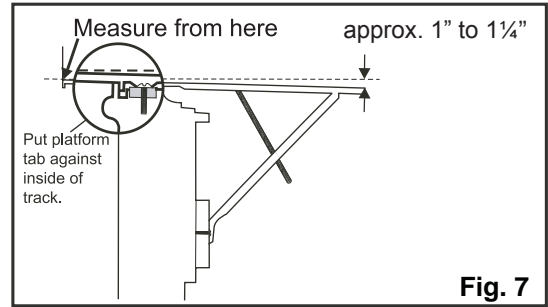

Fig. 7
6. Place platform assembly. (Fig. 7)
Adjust the platform assembly so that the outside edge is 5/16 inches lower than inside edge. (Fig. 7) This ensures proper water drainage from the air conditioner.
7. Measure the height of the window opening. (Fig. 7)